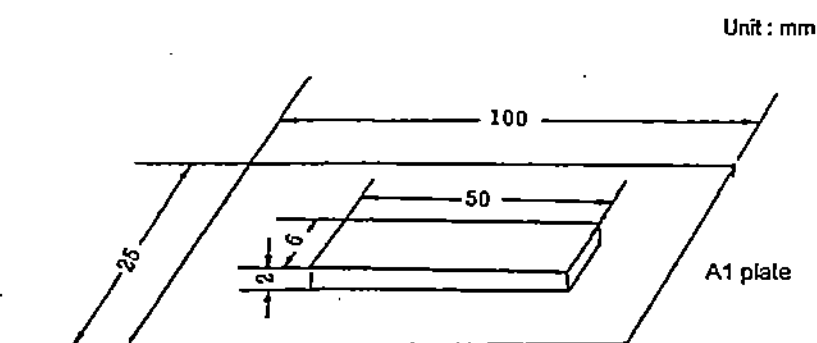

Figure 11
- (1) Heat foam hardening type forming sealant : Put the sample on center of the aluminum plate whose weight is known, as in Figure 11, and leave it